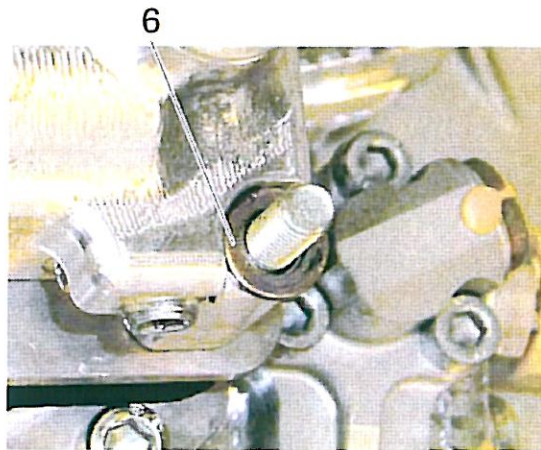

Figure 21
16. Apply Loctite 243 to each stud bolt about two to three threads above the washers (item 6). See Figure 21.